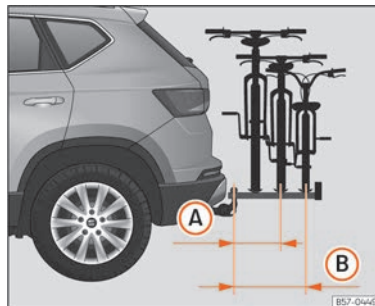

Fig. 181 Schematic representation of the maximum load overhang of a bicycle rack for two or three bicycles.
- (A)** With up to 55 kg load capacity: 500 mm (approx. 19.7 in)
- (B)** With 75 kg load capacity: 700 mm (approx. 27.6 in)
The maximum overhang shall not exceed 500 mm from the centre of the ball head to the to the centre of the rail of the last support » **Fig. 181 (A)** for two-bicycle racks. In the case of three-bicycle racks, the overhang must not exceed 700 mm » **Fig. 181 (B).**